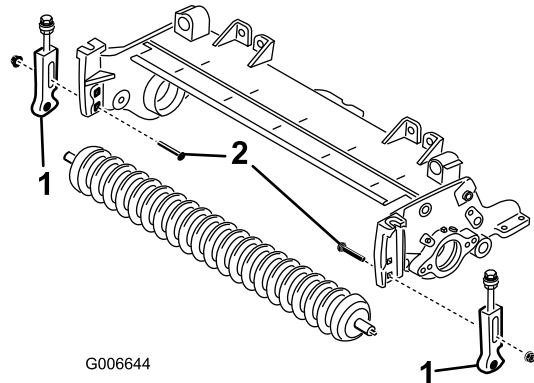

Figure 19
12. Remove the carriage bolts and nuts securing the height of cut brackets to the cutting unit side plates (Figure 19).
13. Loosen the capscrews and locknuts securing the height of cut brackets to the front roller shaft (Figure 19).
14. Remove the height of cut brackets and the front roller from the cutting unit side plates (Figure 19).